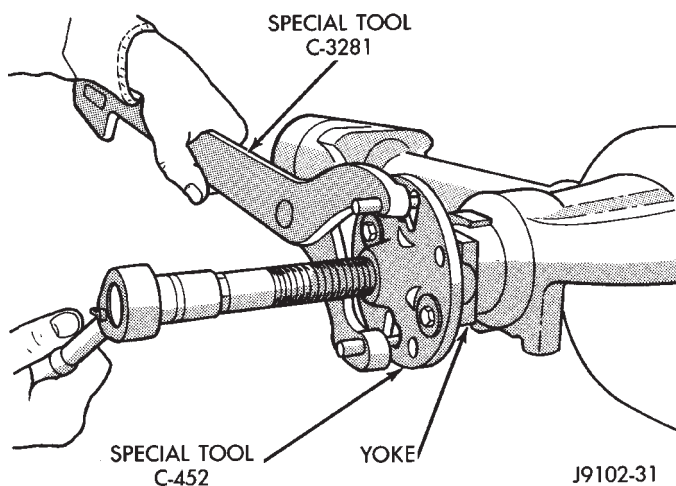

Fig. 7 Pinion Yoke Removal
(1) Raise and support the vehicle.
(2) Remove wheel and tire assemblies.
(3) Remove brake drums. Refer to Group 5, Brakes, for proper procedures.
(4) Mark the propeller shaft and pinion yoke for installation reference.
(5) Remove the propeller shaft from the yoke.
(6) Rotate the pinion gear three or four times.
(7) Measure the amount of torque necessary to rotate the pinion gear with a (in. lbs.) dial-type torque wrench. Record the torque reading for installation reference.
(8) Using Holder 6958 to hold the pinion yoke, remove the pinion nut and washer.
(9) Use Remover C-452 and Wrench C-3281 to remove the pinion yoke (Fig. 7).